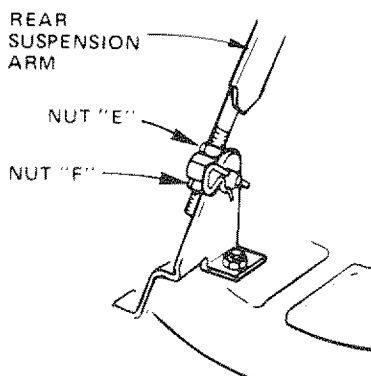

FIGURE 41
- b. To raise rear of mower, loosen nut "E" on both rear suspension arms. Screw both nuts "F" up an EQUAL NUMBER OF TURNS (Fig. 41).
- d. To lower rear of mower, loosen nut "F" on both rear suspension arms an EQUAL NUMBER OF TURNS (Fig. 41).